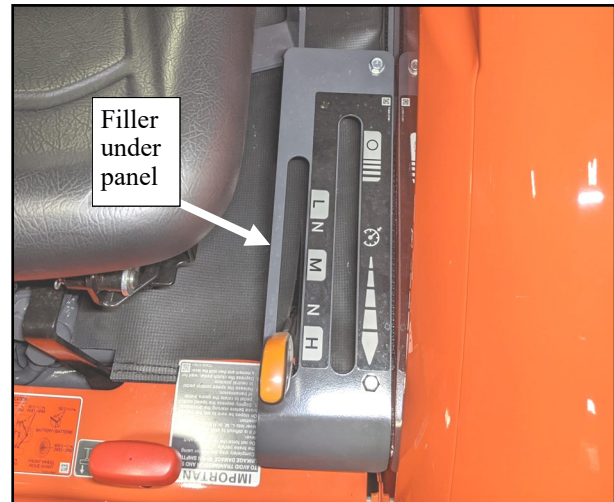

Fig. 11.1a (View from left side of tractor)
11.1 Pre-install the supplied Velcro to the under seat filler. Leave the release tape on until the filler is in place. Figures 11.1a and 11.1b show the underseat filler installed. Begin installation by doing a dry fit to get a feel for where all areas fit best. The drive control lever cover panel can be removed for ease of installation. Start by lining up the top rear edge with the bottom of the rear panel (install the supplied mating velcro along the lower inside portion of the hard rear panel). Make sure the areas where the supplied self-adhesive hook velcro will be applied are clean and dry and at room temperature for best adhesion. Apply the corresponding velcro where deemed necessary and to match the velcro on the vinyl filler. **Note: If additional control levers are installed, cut slits into the underseat filler to fit.**